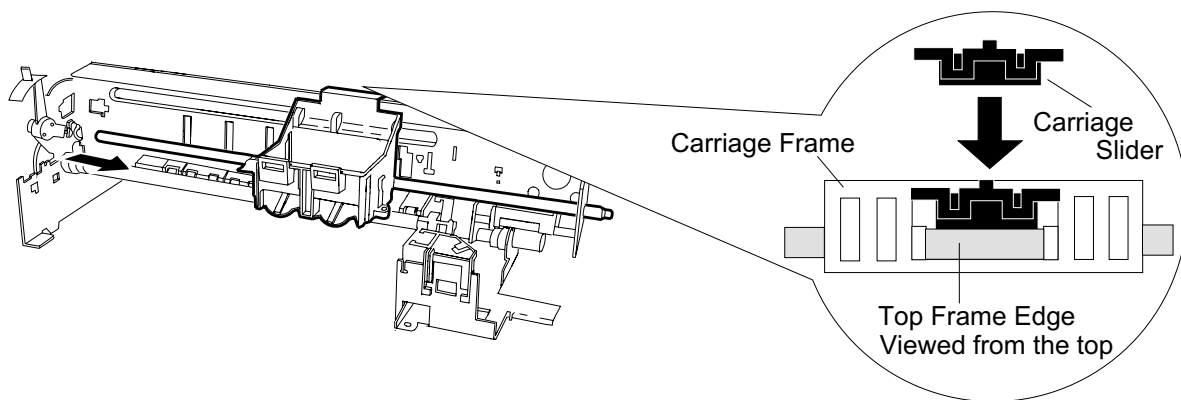

Figure 3-51. Fitting the Carriage Slider to the Upper Edge
- Fit the CR shaft into the U-cut of the slider. (See Figure 3-51.)